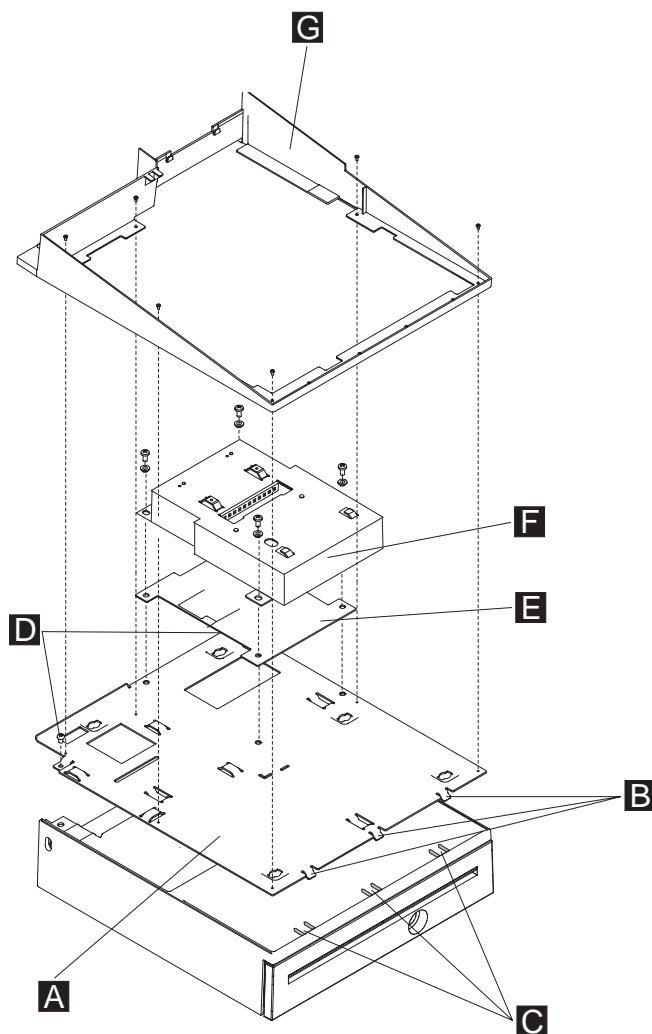

Figure 27. Installing the keyboard-integration tray on a cash drawer
- a. Tilt the integration tray down so the three tabs **B** align with the three tab holes **C** on the cash drawer as shown in Figure 27. Set the integration tray down on the cash drawer while aligning the screw holes **D** with holes on the cash drawer.
8. Attach the mounting plate **F** to the integration tray with four plastic washers and screws as shown in Figure 27.